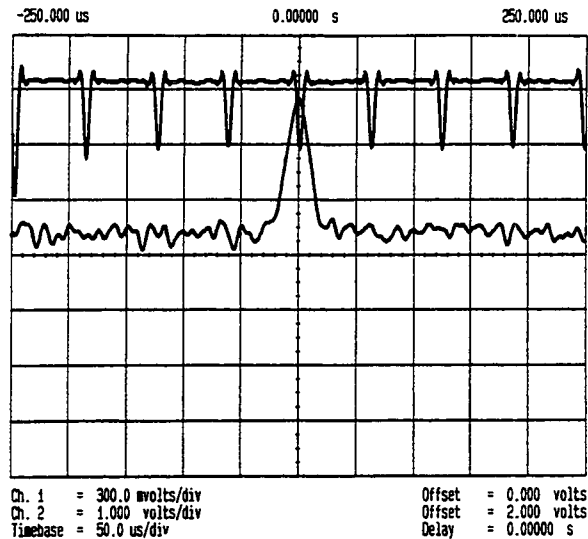

Figure 2-3. Video Signal on the Oscilloscope
5. Tune the spectrum analyzer center frequency to find and center the video signal on the oscilloscope (see figure 2-3). Align the video input with the trigger output at center screen.